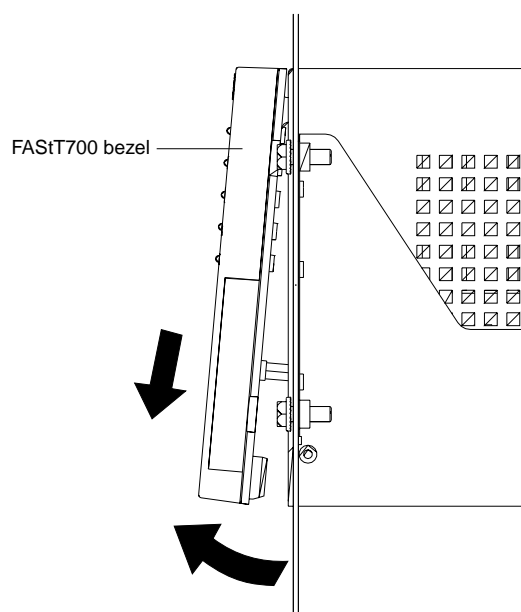

Figure 20. Removing the FAStT700 Storage Server bezel
To access the controllers, battery, storage server fan, and indicator lights, you must remove the FAStT700 Storage Server bezel, as shown in Figure 20.
1. Carefully pull the bottom of the bezel out to release the pins; then slide the bezel down, as shown in Figure 20.
**Note:** To view the RAID controller indicator lights, remove the FAStT700 Storage Server bezel, as shown in Figure 20 on page 14.
**Note:** To view the battery indicator lights, remove the FAST700 Storage Server bezel, as shown in Figure 20 on page 14.